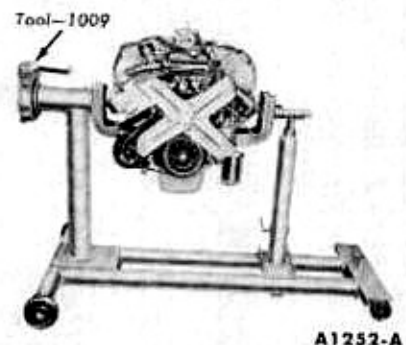

FIG. 14—Engine Work Stand
26. Lift the engine out of the engine compartment and install it on a work stand (Fig. 14).